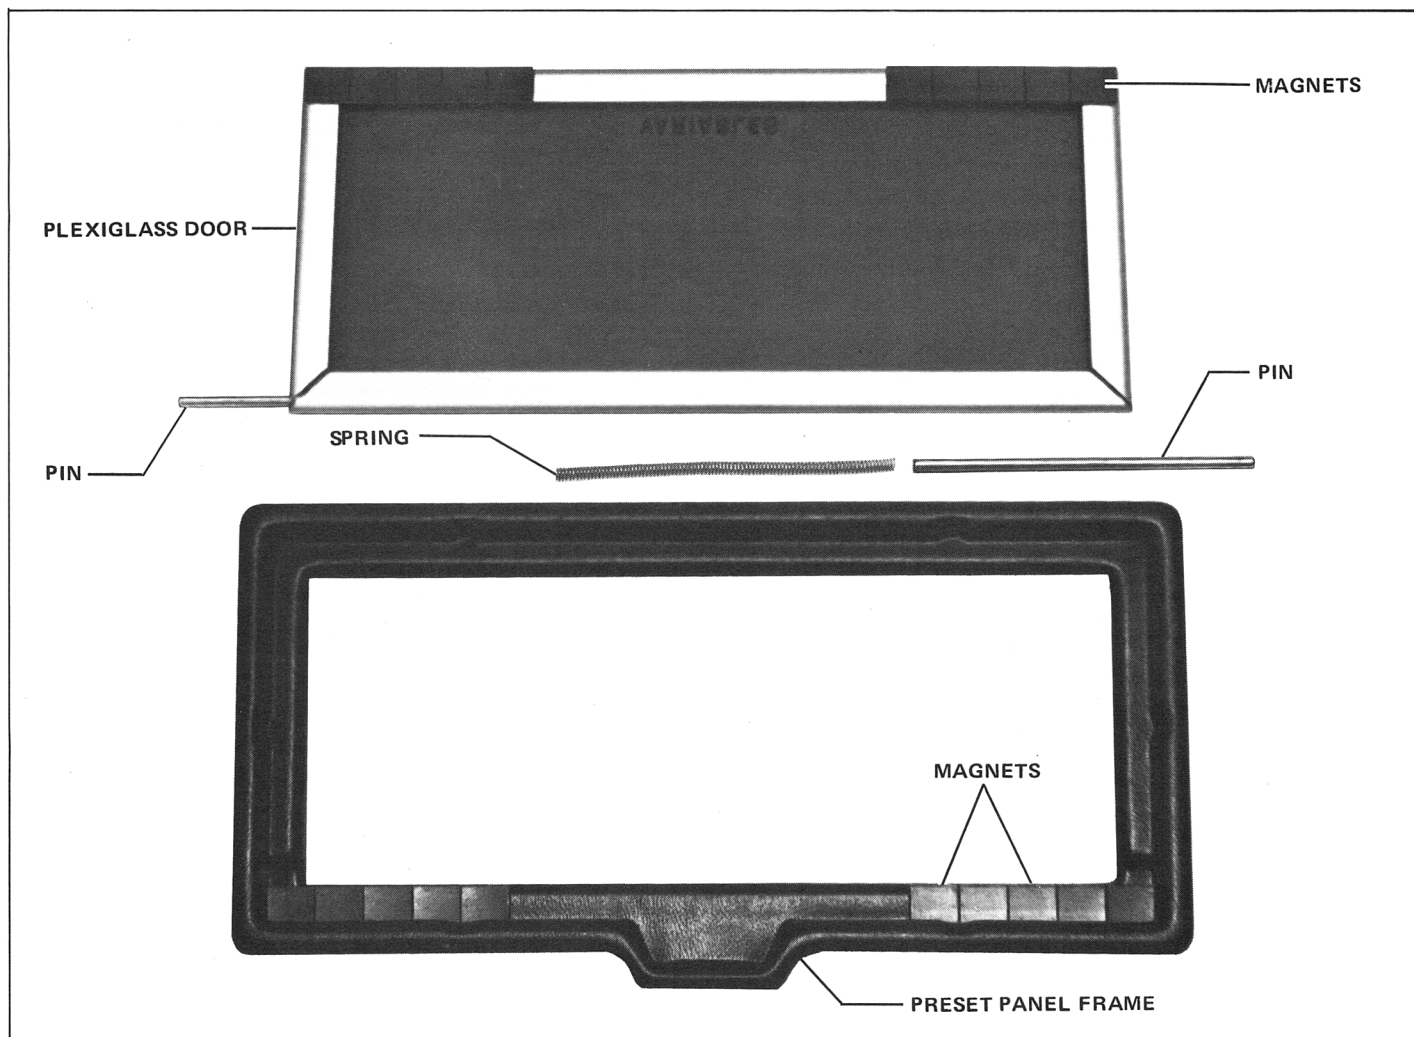

FIGURE 3-3 PROGRAMMED PRESET COVER
3.5 VARIABLES CONTROL COVER REMOVAL (Figure 3-3)